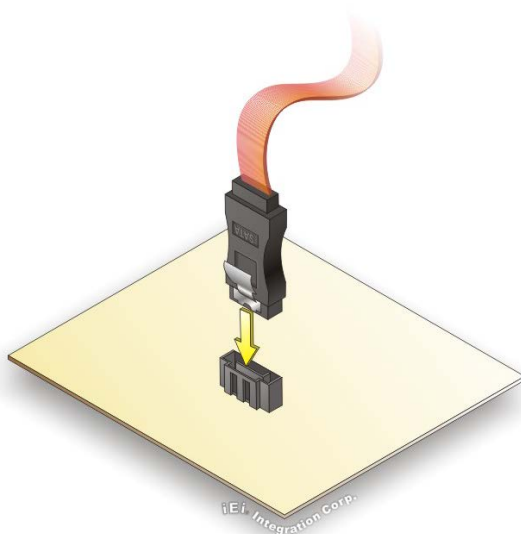

Figure 4-16: SATA Drive Cable Connection
Step 2: **Insert the cable connector.** Insert the cable connector into the on-board SATA drive connector until it clips into place. See **Figure 4-16**.